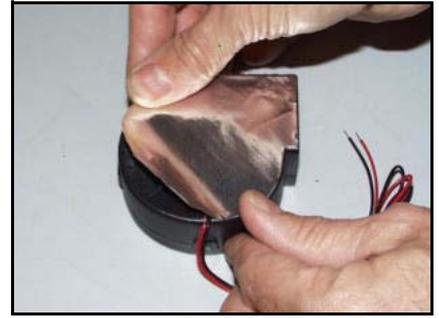

Fig. 32 Apply foil to fan
- 6 Prepare the new fan. Cut a piece of foil backing (P/N 33002002) to fit and apply it to the back of the fan. (Fig. 32) Place a 40 cm (16 in.) length of sleeve over the leads, cut the leads to length, and install a 2-pole plug.